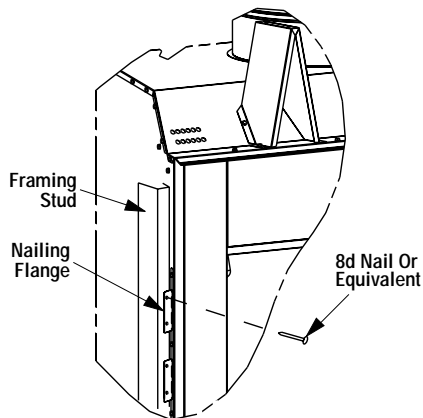

Figure 16
Step 4. The fireplace should be secured to the side framing members through the nailing flange (Figure 16).